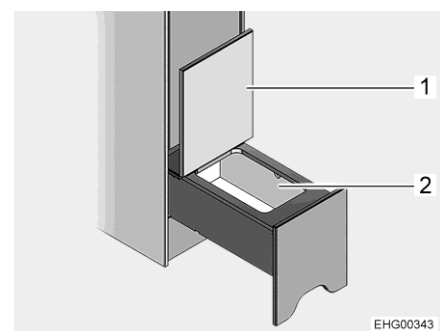

Fig. 96 Storage compartment
- Fold the lid (Fig. 96,1) up. The storage compartment (Fig. 96,2) is accessible.